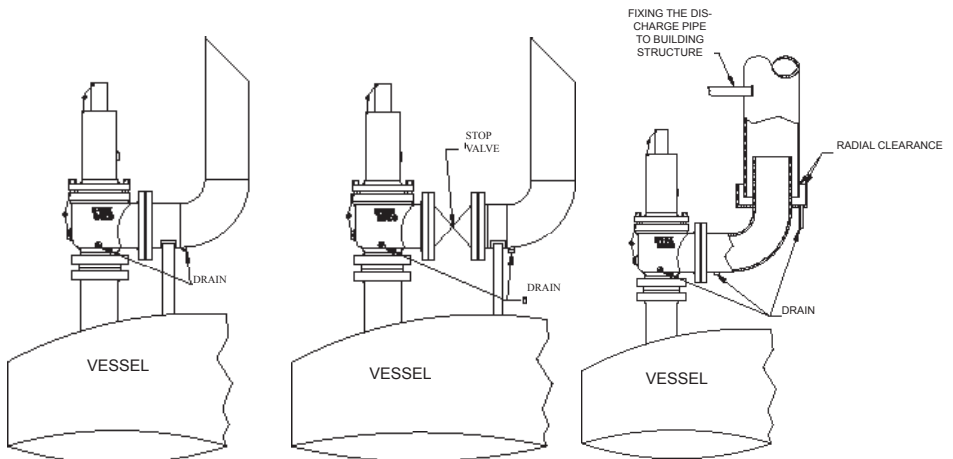

FIG. 05
- A shutoff valve may be installed at the outlet connection, provided it meets the recommendations of API RP 520 Part 2, of the ASME Code Section VIII UG135 (d) and of Appendix M of the same code. If installed, the shutoff valve must be full bore and have a nominal diameter equal or greater than the Safety and Relief Valve outlet diameter (**Figure 05**).